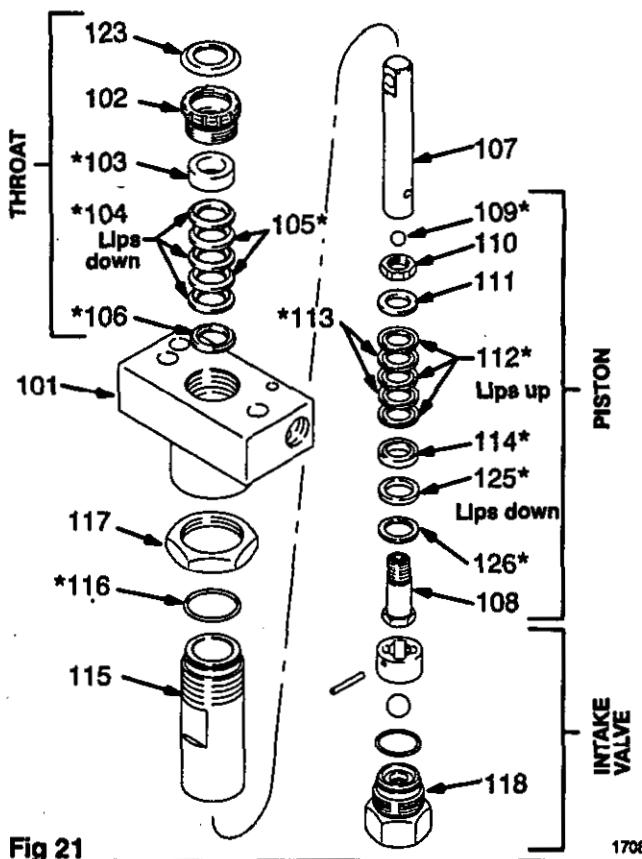
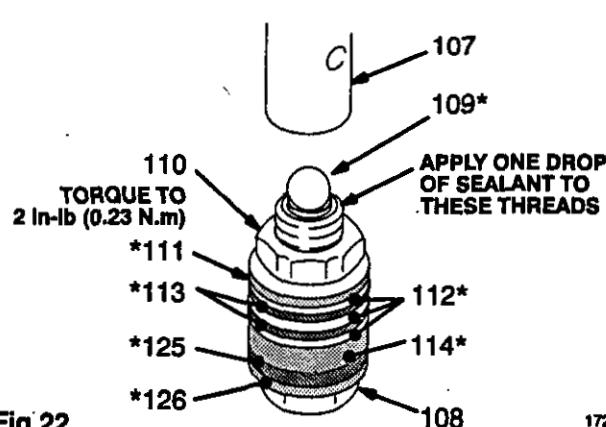

Fig 21
Fig 22
## Disassembling the pump (See Fig 21)
**NOTE 1:** Alternate plastic and leather packings. See Fig 21. The lips of the throat V-packings face down. The lips of the piston V-packings face up. Incorrect installation damages the packings and causes pump leaking.
1. Check the outside of the piston rod (107) and the inside of the cylinder (115) for wear. Replace worn parts to ensure a good seal with the new packings.
2. Stack these parts onto the piston valve (108) one at a time: the backup washer (126\*) and u-cup (125\*), the female gland (114\*), alternately three plastic (112\*) with two leather packings (113\*), and the male gland (111\*). See Fig 22.
3. Tighten the nut (110) onto the piston valve (108) to 2 in-lb (0.23 N.m). See Fig 22.
**NOTE 3:** Note the alignment of the piston (108) to the nut (110). Maintain this alignment through Step 8.
5. Place the ball (109\*) on the piston valve (108). See Fig 22.